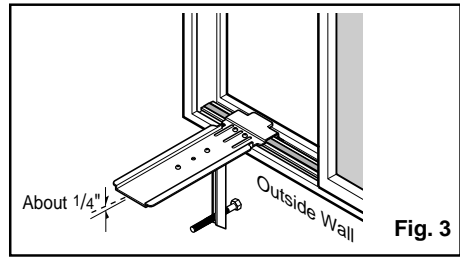

Fig. 3
4. Put the Support Bracket against the outside wall and tighten the Bolts on top of the Bracket. Adjust the Leveling Bolt so that the air conditioner will be installed with a very slight tilt (about 1/4") downward toward the outside for proper drainage. Tighten the nut. (Fig. 3)